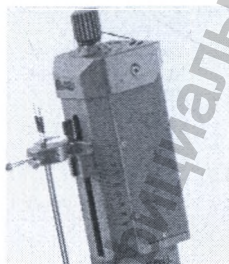

Figure 5: AutoClavable Drive
- The Drive HeadStage and the components comprising the Drive HeadStage module appear in figure 5.